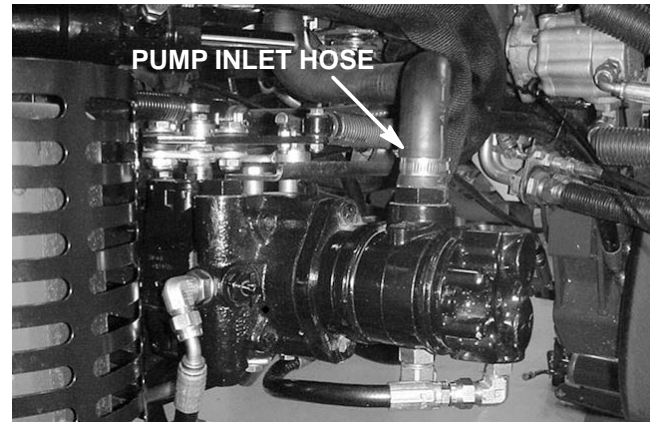

Figure 20
5. Drain hydraulic reservoir as follows (Fig 20):